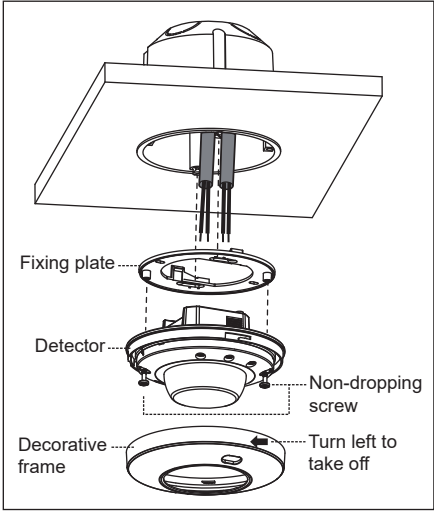

FIG.2
- 3. Please refer to illustration of FIG.2 for correct installation. Fix the fixing plate to the European standard junction box. After wiring, fix the detector to the fixing plate with 2pcs non-dropping screws (See FIG.2).